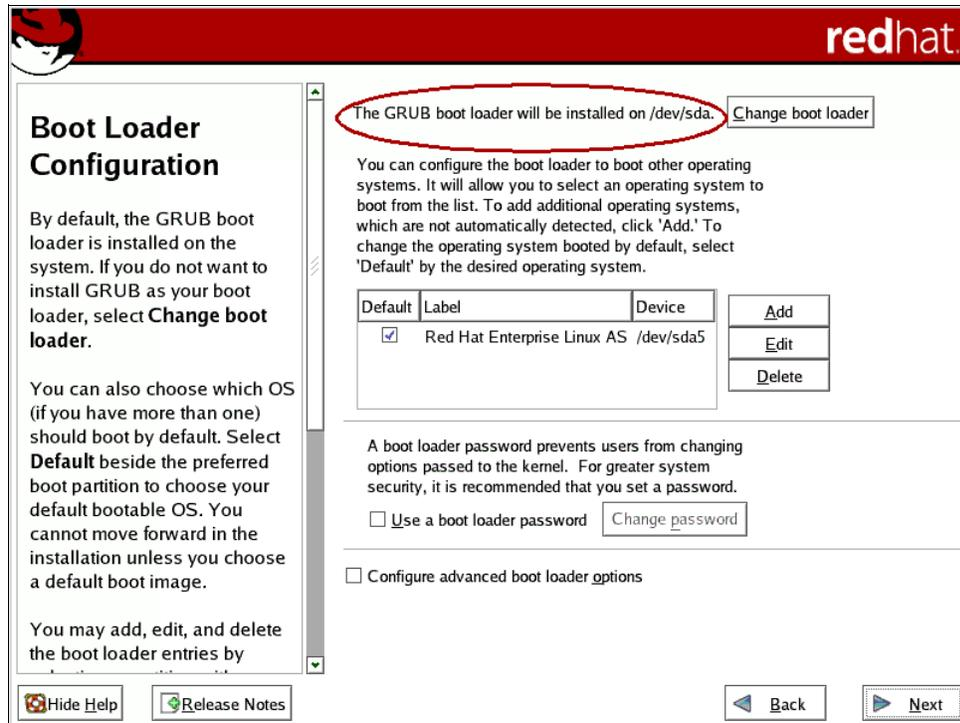

Figure 10-66 Boot Loader Configuration
5. After disk partitioning is completed, continue the installation by following the instruction wizard. When you reach GRUB (boot loader) installation, ensure that GRUB is installed on the master boot record (MBR) of DS4700 LUN. In this example, GRUB will be installed on /dev/sda, as shown in Figure 10-66.
Note: Depending on your version of RHEL, you might need to select Configure Advanced Boot Loader options in the Boot Loader Configuration, as shown in Figure 10-66, to modify the GRUB installation in the MBR of the DS4700 LUN, especially if you have internal disks installed.